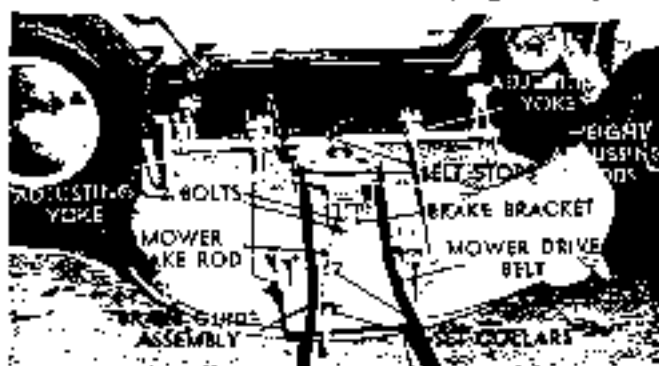
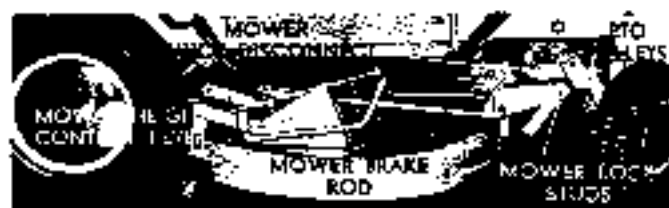

FIG. 51
FIG. 52
To attach the mower to the tractor, first park the tractor on level ground. Move the P.T.O. Lever to the "Disengaged" (rear) position. Put the mower down on the right side of the tractor so that it faces perpendicularly away from the tractor (Fig. 51). Turn the front wheels of the tractor hard to the left to give a clear access to the underneath. Push the mower straight in under the tractor to the point where it can be turned 90° to face in the same direction as the tractor (Figure 52).
Now lift the front of the mower up and back so that the lock studs on each side of the Mower Arm will drop down into the slots of the Mower Quick-Disconnect Assembly. (Fig. 52)
To raise the blade tip at the front, turn the Yokes on the Adjusting Rods clockwise (counterclockwise to lower) (Fig 51).
Position the brake so that the face touches both tips of pulley, then tighten the two (2) bolts holding the Brake Bracket to the Mower Housing (Fig. 51).